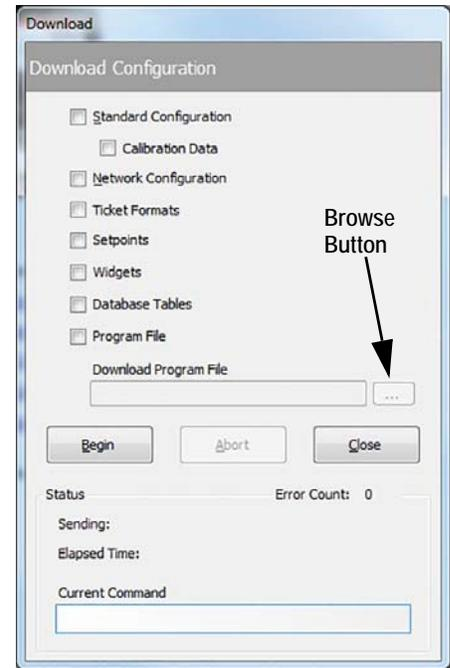

Figure 13-3. Import Configuration
3. In *1280*, from the *Communications menu*, select *Download Configuration*. A menu box will appear, see Figure 13-3.